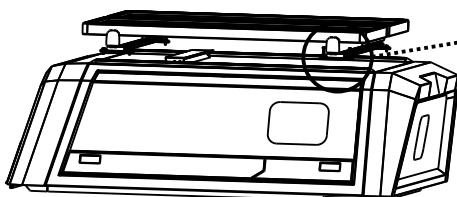

FIGURE 6
6. AFFIX THE SMART RACK USING THE SUPPLIED FASTENERS. [SEE FIGURE 6]